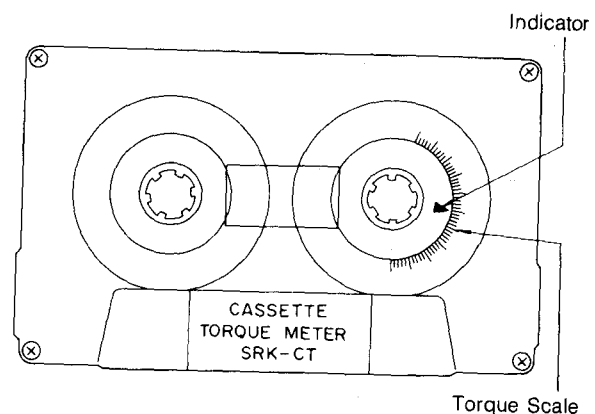

FIG. 19
4. Read "▶" mark of indicator on take-up side, as shown in Fig. 19.